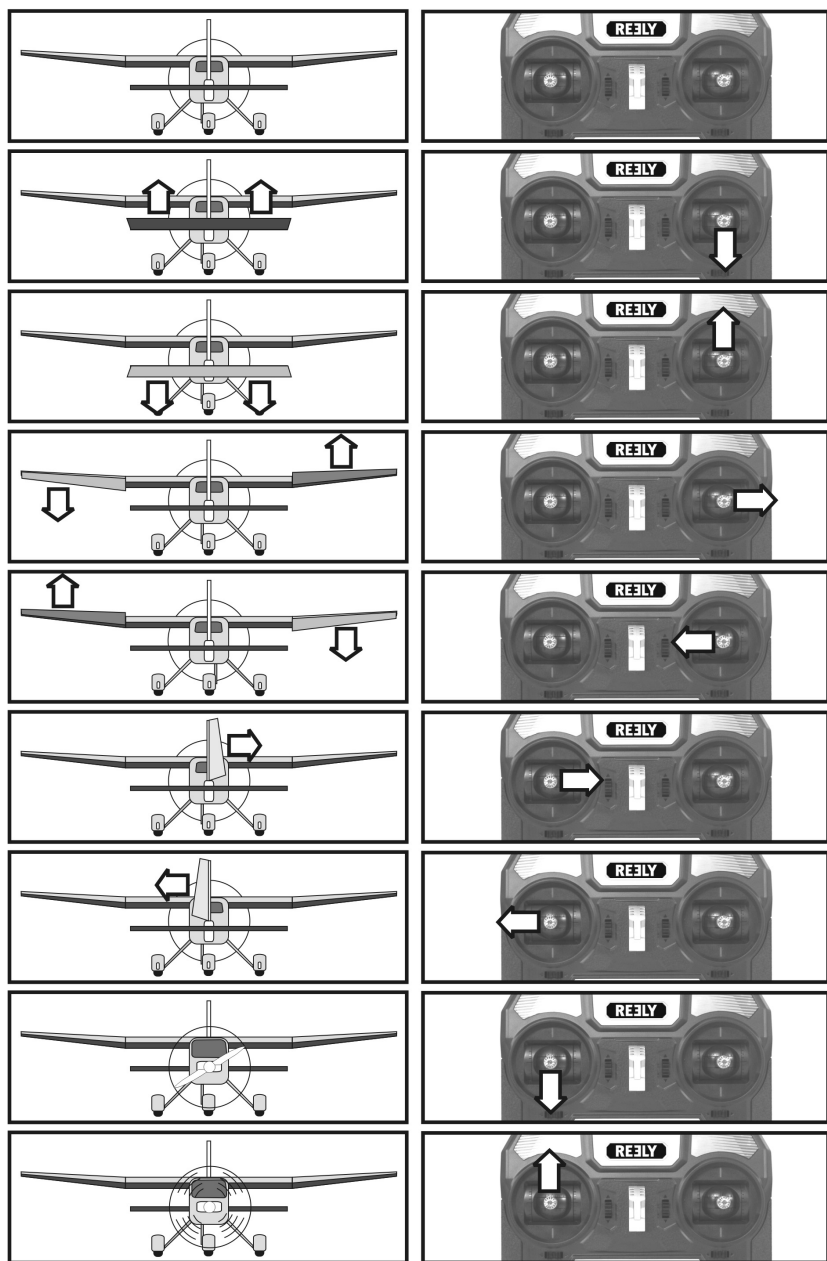

Figure 10
Take the transmitter into operation, then the receiver. If attached correctly, the servos at outputs 1, 2, 3 and 4 should react in the right direction to the movements of the control levers according to the illustrations in figure 10. The linkage rods of the rudders must be adjusted so that the rudders are all aligned precisely centrally if the control lever and the trimming are in the central position (also see top sketch in figure 10).
The next page, figure 10, shows a schematic illustration of the rudder deflections in the respective control lever movements.
If the servos or rudders react in precisely the opposite manner as shown in figure 10, the reverse switches (see following chapter) can swap the running direction of the respective servo.
If the rudder movements are not according to figure 10, you can switch the running direction of every single servo with the reverse switches (also see figure 1, item 8). The switches are assigned as follows:
If you want to control your flight model according to the chart shown in figure 10 (mode II), you can skip this section. If you prefer the throttle function on the right control lever and the elevator function on the left one (Mode I), you may convert the transmitter accordingly.